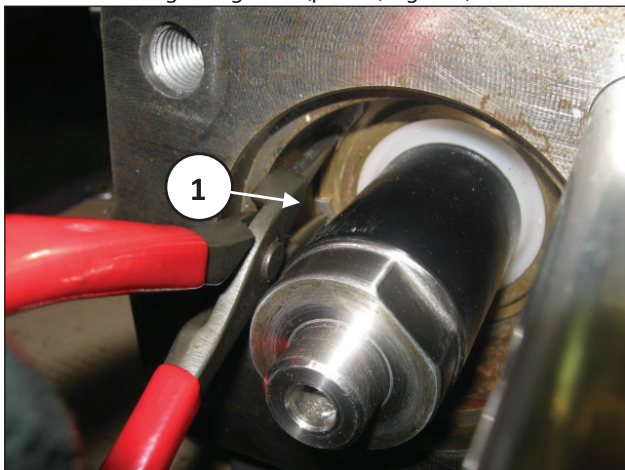

Fig. 122
Remove the Seeger rings Ø78 (pos. ①, Fig. 122).